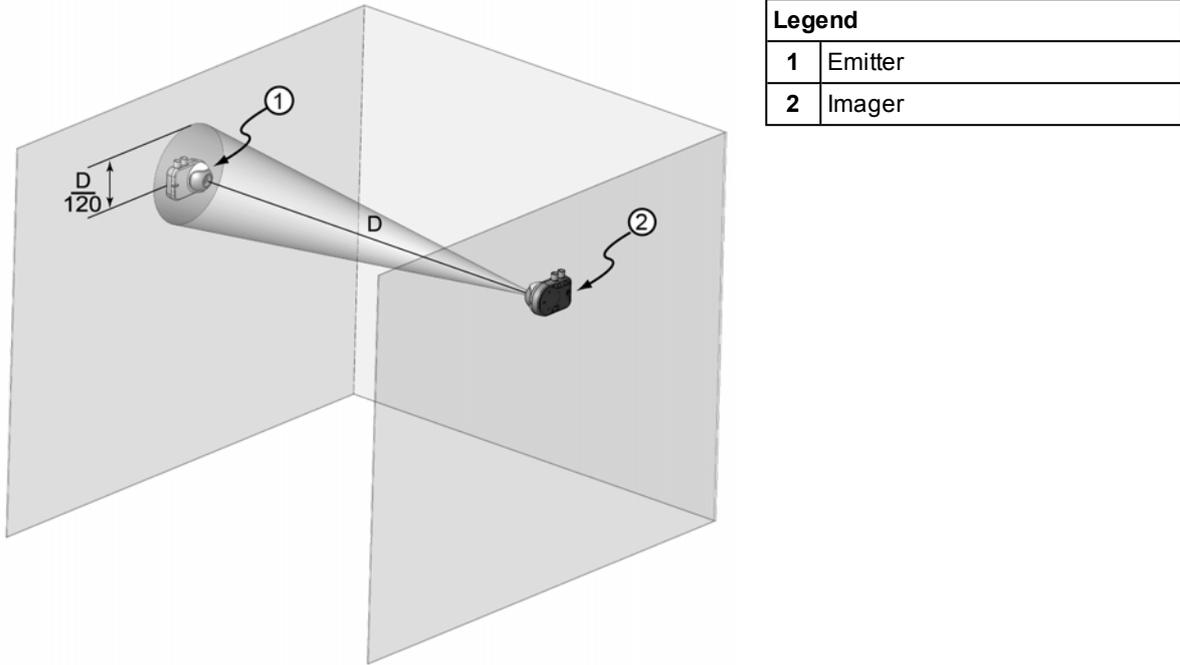

Figure 4-19: Alignment guidelines for 10° Imager to Emitter
**Note:** Emitter alignment follows the same guidelines as 10° Imager alignment. The Emitter must be positioned with the Laser Alignment Tool to within  $D/120$  of the Imager, where  $D$  in Figure 4-19 is the distance between the Emitter and Imager.
1. Switch ON and insert the laser alignment tool (1) into the alignment hole (2).
2. Use the laser tool to move the optical sphere (3) until the laser beam is pointing towards an area within the specified limits as shown in Figure 4-19.